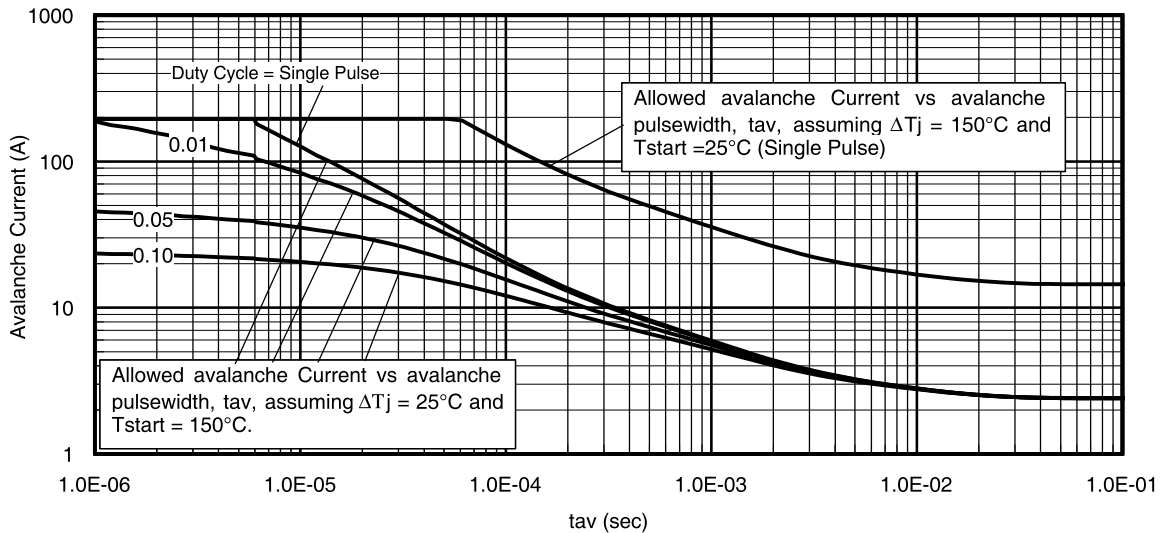

Fig 14. Typical Avalanche Current vs. Pulsewidth
**Notes on Repetitive Avalanche Curves, Figures 14, 15:**
7.  $\Delta T$  = Allowable rise in junction temperature, not to exceed  $T_{jmax}$  (assumed as  $25^\circ\text{C}$  in Figure 14, 15).